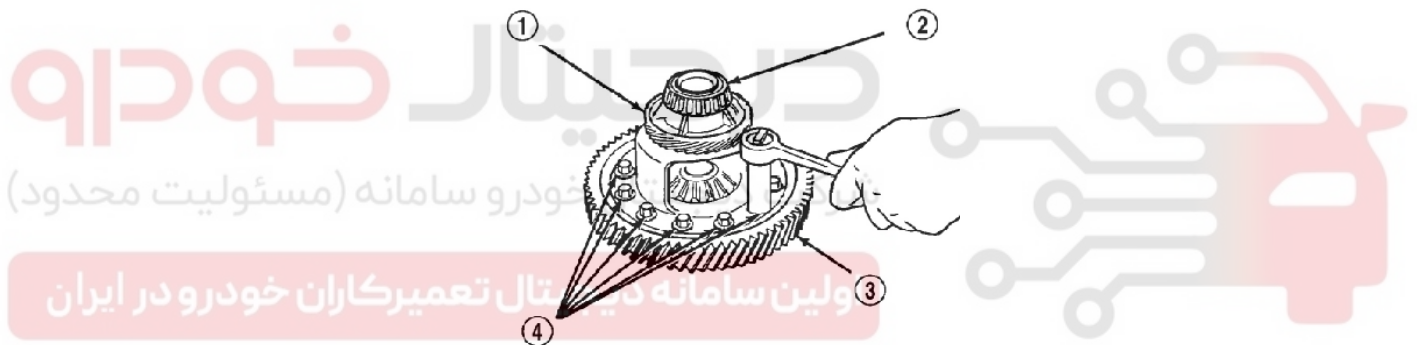

Figure 3-98 Assembly of ring gear and bolt
(8) Place the ring gear in the differential casing and screw on new bolts at the tightening torque 81Nm (60ft.lbs.) (Figure 3-98)